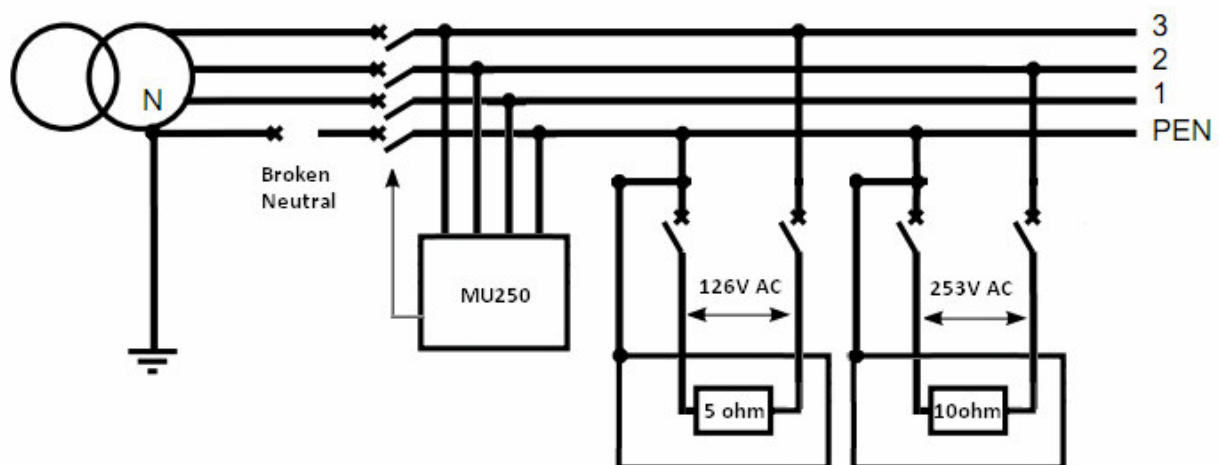

Figure 3: MU250 protection on three phase TN-C system
- The MU250 detects the phase voltage level (V_{x-N}) between phases and phase unbalances to protect home appliances in the distribution system (See Figure 3) from under over and unbalance.